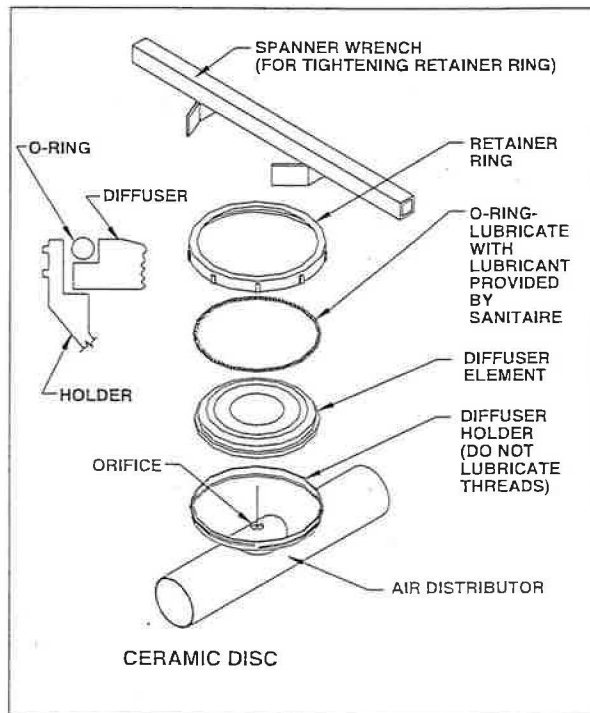

Figure 33
3. Place the diffuser "O"-ring in the slot or void between the diffuser holder vertical wall and the raised portion of the diffuser disc. See Figure 33.